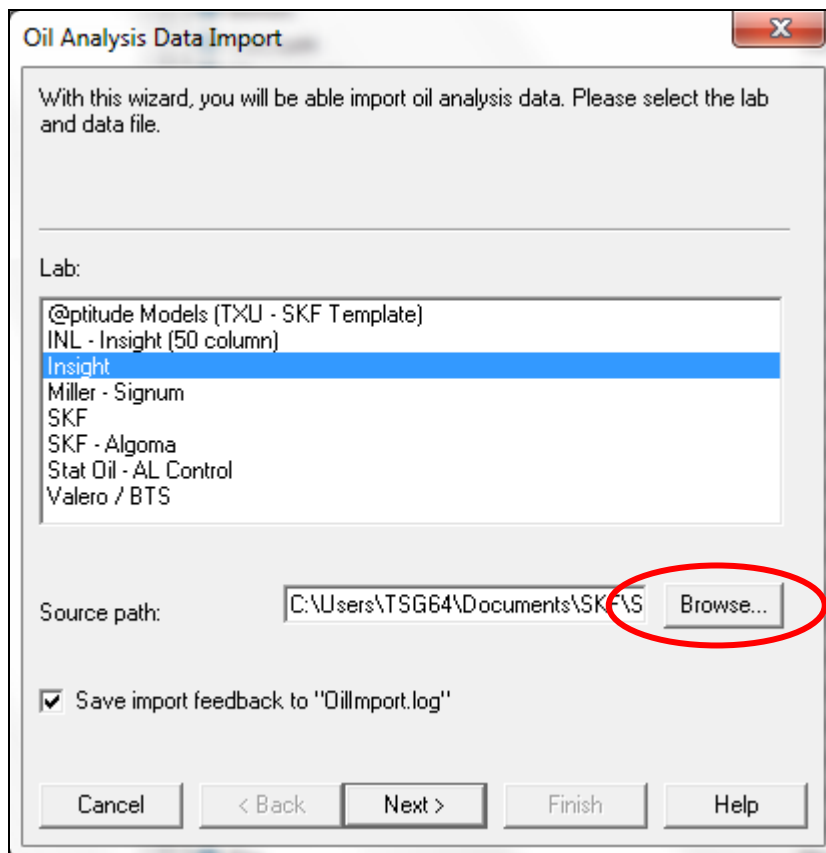

Figure 2. Select template to import
3. Click [Browse] to select the oil sample template to import. [Figure 2]